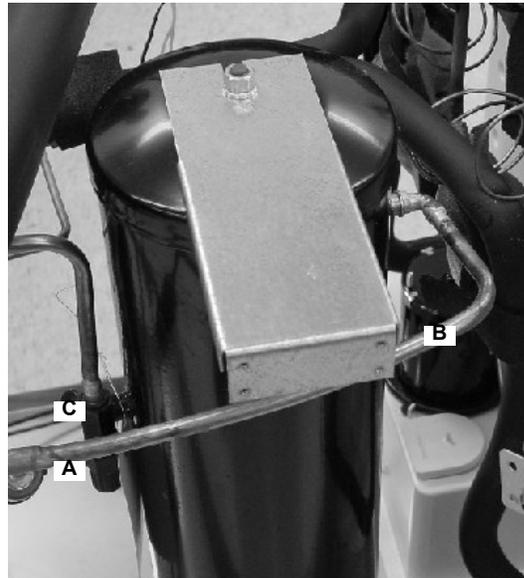

Figure 31.
Braze the Liquid Line with Filter Drier to the receiver outlet (C) (Figure 31).